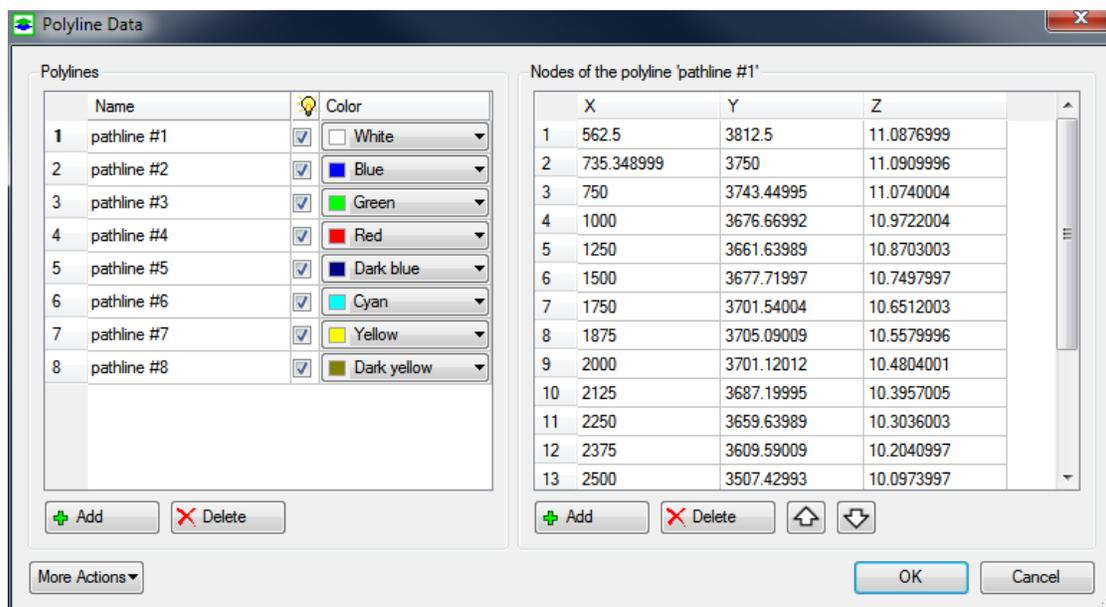

Figure 2.12. The Polyline Data dialog box
2. Select *Create New Object* from the popup menu to display the *Polyline Data* dialog box (Figure 2.12), where you can import polyline files and/or edit polyline data. The options of the Polyline Data dialog box are listed below.
- *Edit Data*: Click the  button to open *Polyline Data* dialog box (Figure 2.12) where you can make changes to the polyline data.